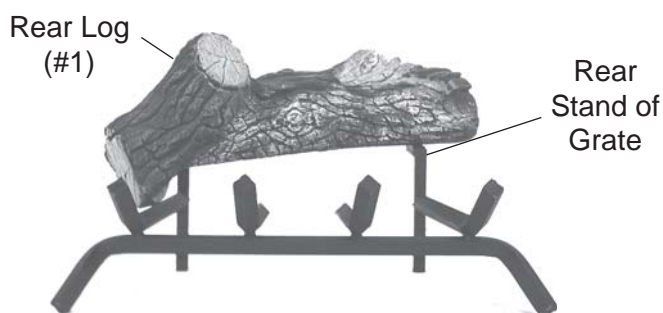

Figure 123 - Placing Rear Log #1 on Back Grate
2. Place Rear Log #1 on back of grate. Left side should fit on grate in front of rear stand. Right side goes on the rear stand of grate. *See Figure 123.*